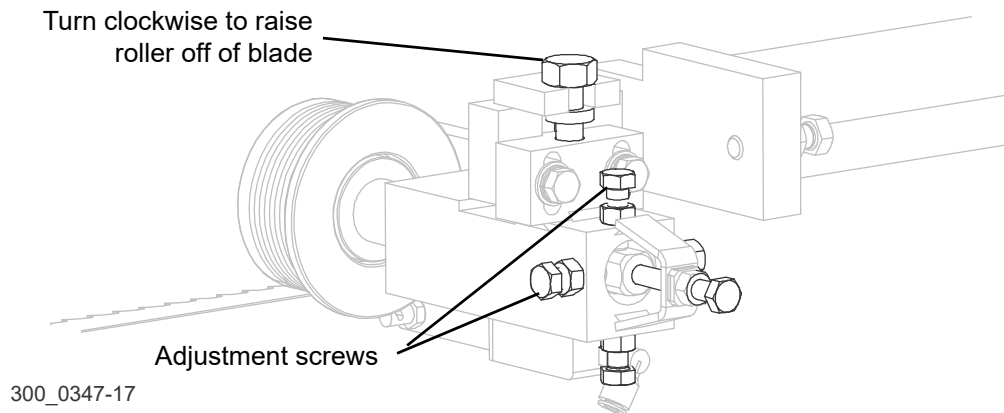

FIG. 3-37
4. Adjust the blade guides so they do not touch the blade. See Figure 3-37.
See Figure 3-37.